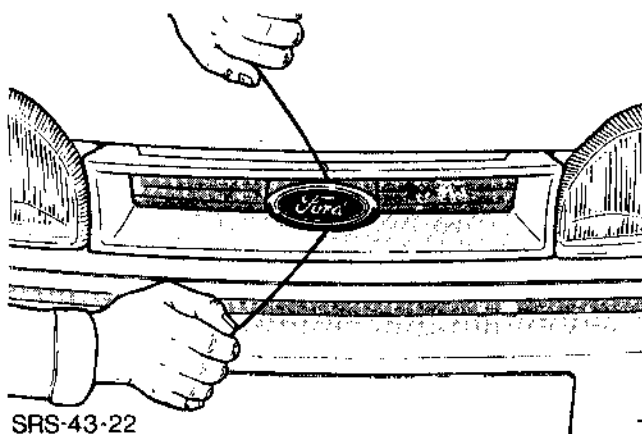

Fig.1. Remove the motif from the hood.
1. Using a length of fine nylon cord, break the adhesive bond between the motif and body panel by drawing the cord behind the motif, Figs.1 and 2.